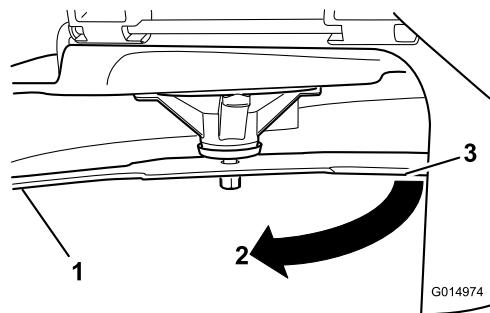

Figure 61
3. Measured distance between blade and the surface (A)
4. Rotate the same blade 180 degrees so that the opposing cutting edge is now in the same position (Figure 61).